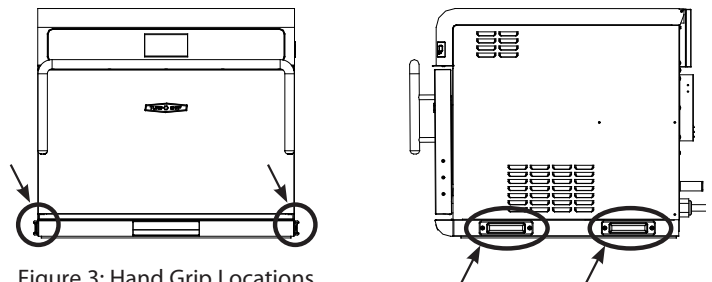

Figure 3: Hand Grip Locations
! **WARNING:** Lift only by using the provided hand grips (Figure 3, below). Never lift the oven by the door handle. This may result in a non-warranty service claim.
3. Place hands into grips (see Figure 3) and lift.